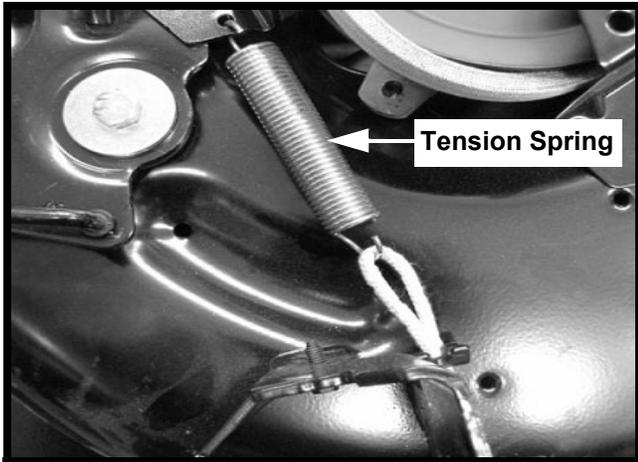

FIGURE 2
5. Release the tension of the deck idler system by removing the tension spring from the rear deck bracket as shown in Figure 2.